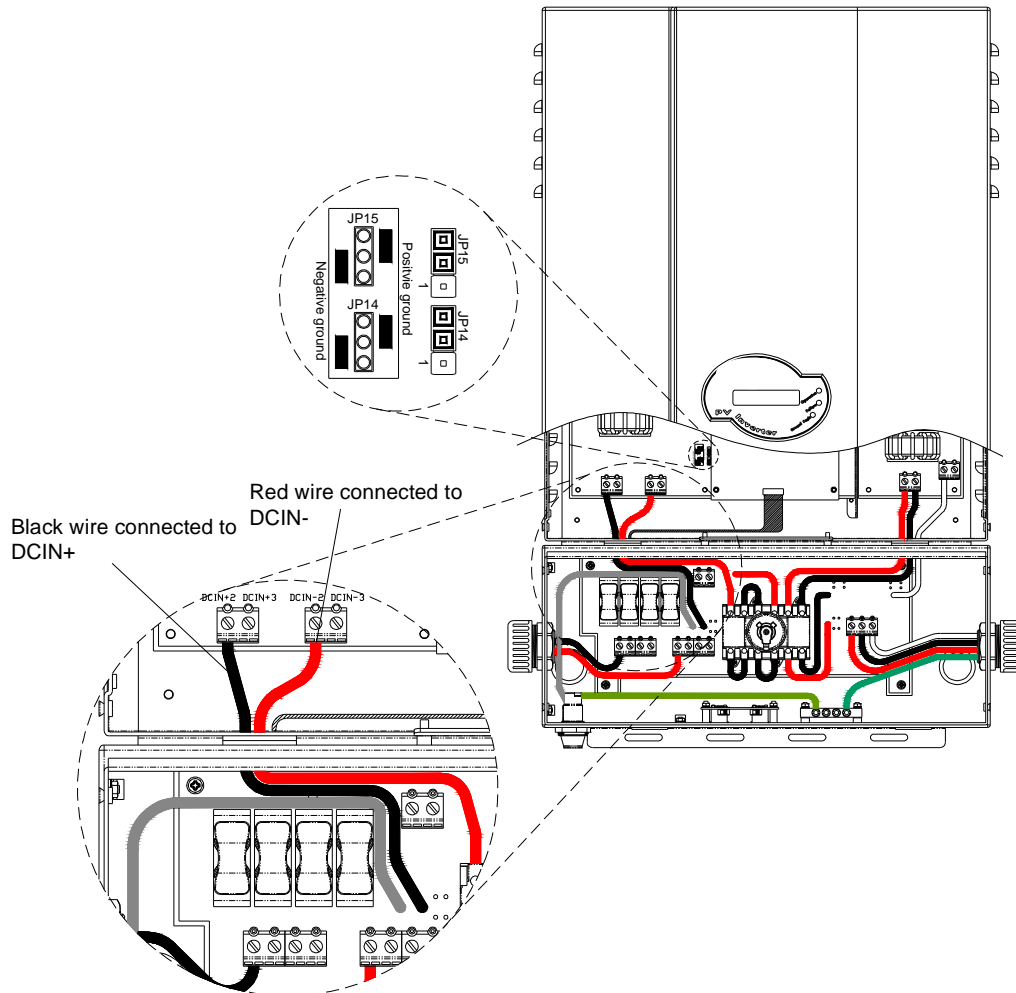

Figure 10.5.1 – Positive Ground Setting and DC Wire Connections
- As shown in Figure 10.5.1, the JP14 and JP15 jumpers need to be placed at the higher positions to set to positive grounding.